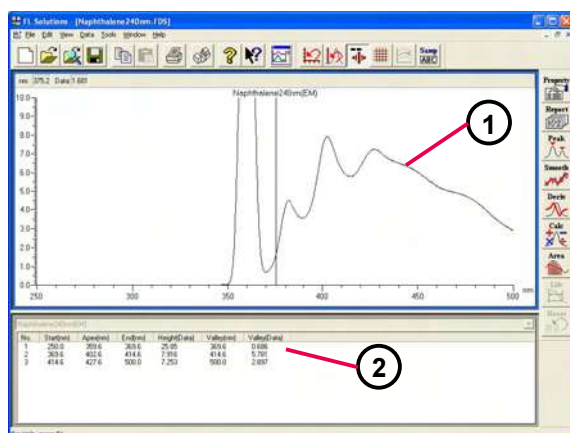

Fig. 1-35 Wavelength Scan
- A spectrum alone can be displayed or both spectrum (①) and peak table (②) can be displayed as shown in Fig. 1-35.